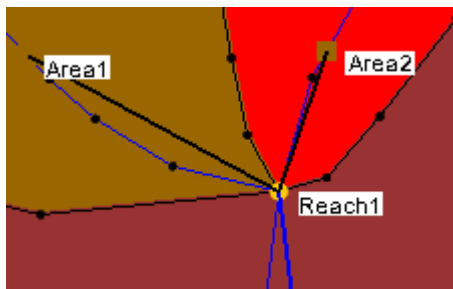

Figure 3 Reach1 outlet
1. Using the **Select outlet**  tool, select and right-click on the “4C” outlet ( Figure 3) and select the **Add | Reservoir** menu item.